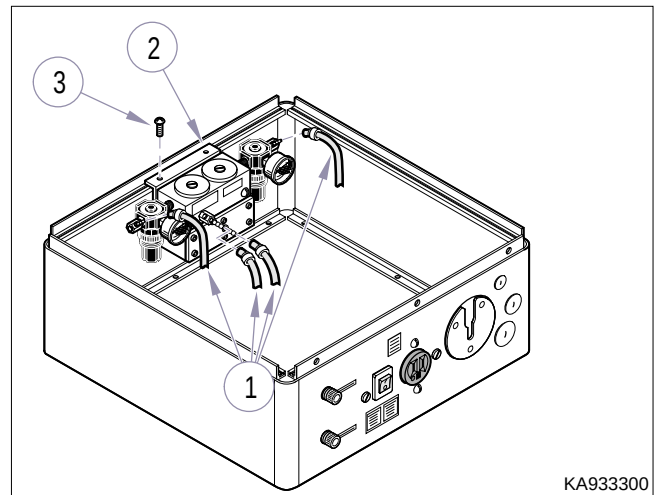

Figure 4-16. Typical Valve Block Removal
- (3) Disconnect all tubing (1, Figure 4-16) from valve block assembly (2).
- (4) Remove two screws (3) and valve block assembly (2) from junction box.